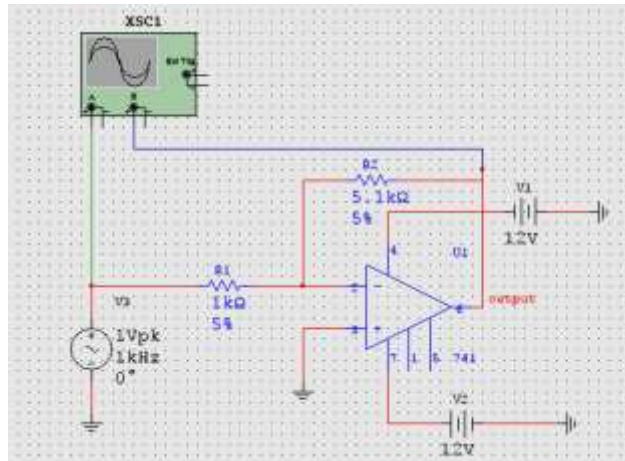

Figure 1 Circuit for noise analysis
1. Figure 1 shows a basic operational amplifier with a gain of 5. You will use **Noise Analysis** to obtain results for noise voltage for **R1** and **R2** and display a graph of the noise spectrum across a frequency range between 1 Hz and 10 GHz.
1. Use circuit in Figure 1 for plotting spectral density.